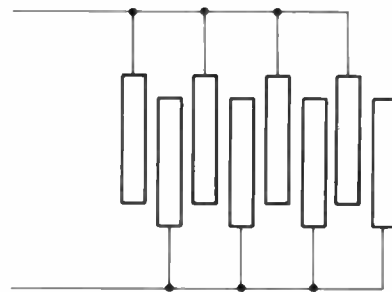
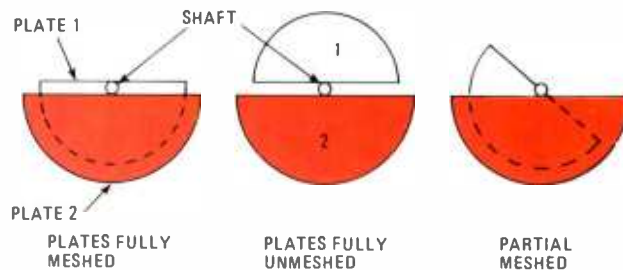

Fig. 10—The total capacitance can be increased by using multiple plates which are connected as two independent banks.
Fig. 11—Variable capacitors are really multiple-plate capacitors having user-determined plate-mesh.
The incoming frequency to be measured is applied to the clock line (7) of the Counter Module. Remember that the 4029 triggers on the negative to positive transition of the waveform. If this waveform is not clean on the transition, false triggering may occur. Some signal pre-conditioning circuit may be necessary to convert the waveform to logic level and shape. The circuit of Fig. 10 is an example of a configuration that can be used. The field-effect transistor (FET) is used as a high-impedance input stage, the transistor
One way to increase the plate area is to use multiple plates of the same size as shown in Fig. 10. The plates are connected together to multiply the area. *The greater the number of plates, the greater the area and the _____ the capacitance.*
25. (greater or larger) One way to make a variable capacitor is to use the multiple plate idea of Fig. 10. One set of plates is fixed while the other set is made moveable. A common way to do that is to make the plates a half circle, as shown in Fig. 11. Mount the moveable plates on a shaft that can be rotated. When the plates are meshed, they overlap with maximum area producing maximum capacitance. If the plates are unmeshed, the plate area overlap is minimum and the capacitance is minimum. Varying degrees of overlap produce intermediate values of capacitance. *When the plates are fully*